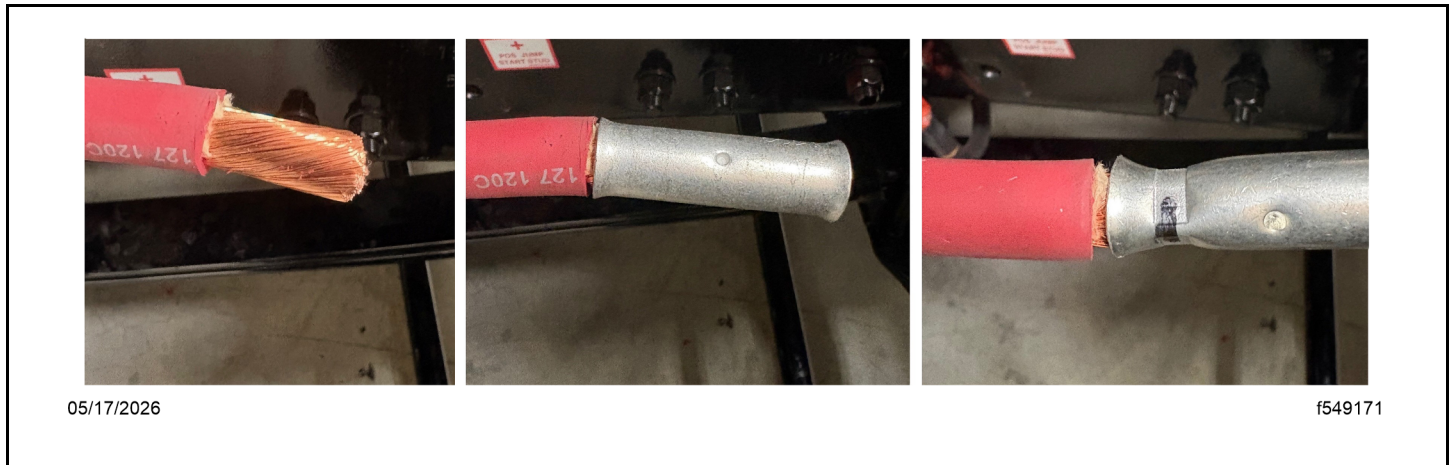

Fig 119, Installing and Crimping the Terminal
24. Crimp the butt connector terminal (PHM 8 2960 and PHM 8 2960) on the cable routed to the cab. See Fig. Fig. 119.